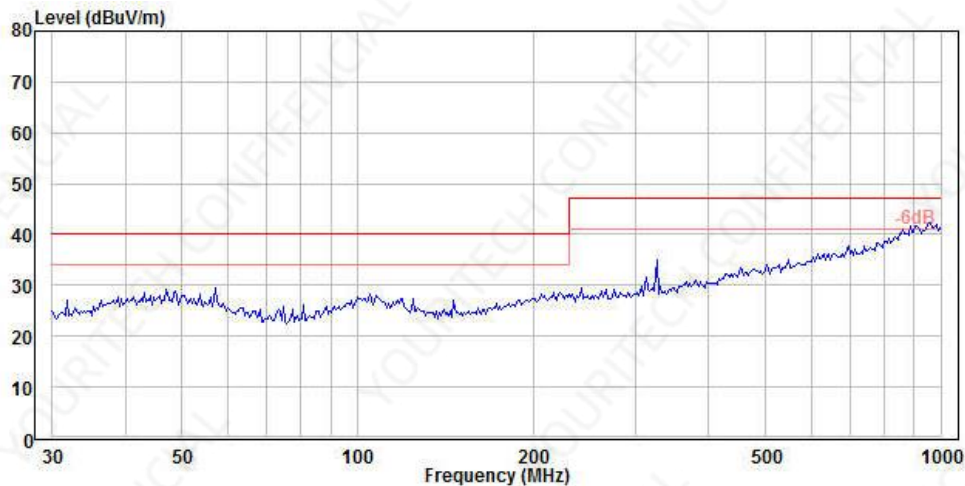

Figure 7-6: Horizontal direction of the radiation test
1. Radiation test horizontal test data, shown in Figure 7-6.